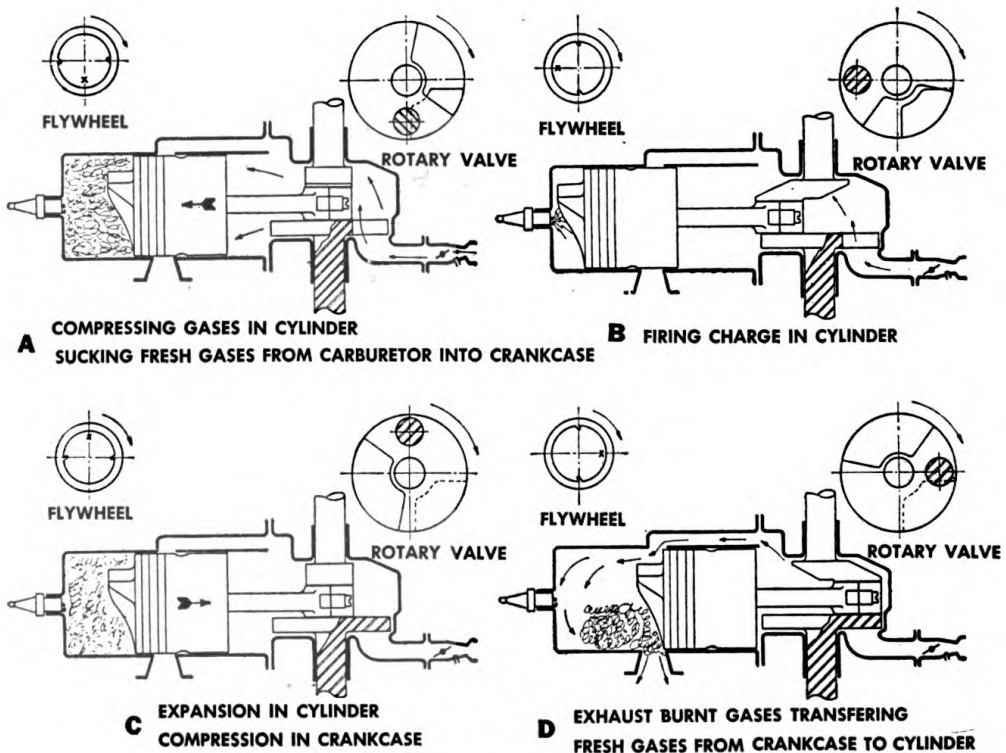

Figure 3. Two-stroke-cycle principle.
(1) The powerhead includes the cylinders, crankcase, crankshaft, pistons and connecting-rod assemblies, muffler, magneto system, carburetor, and fuel tank. It supplies the power to drive the propeller.
(2) The lower unit transmits the engine power to the propeller, and includes the transmission gears, drive and propeller shafts, bearings, water pump, exhaust outlet, propeller, and mounting bracket.
b. TWO-STROKE-CYCLE PRINCIPLE. (1) The two-cycle engine (see fig. 3) operates as follows: when piston travels upward, a charge of fuel vapor in cylinder is being compressed; at the same time a partial vacuum is created in the crankcase. As piston progresses in its upward movement, intake port from carburetor is opened by rotary valve in crankshaft and fuel vapor is admitted to crankcase as in *A*, figure 3. At the end of upward or compression stroke of the piston, as illustrated in *B*, figure 3, a spark plug ignites compressed fuel vapor in cylinder and rapid gas expansion which follows, produces power by pushing piston on the downward or power stroke *C*, figure 3.
port is uncovered and burnt gases pass into expansion chamber or muffler and then out through underwater exhaust *D*, figure 3.
(3) After exhaust port opens, piston will uncover intake port and admit to cylinder compressed fuel vapors from crankcase through bypass from crankcase to cylinder intake port. Fuel vapors are directed upward by deflector on piston head, as shown in *D*, figure 3. The continuous succession of above cycles produces a constant, smooth flow of power.
c. LUBRICATION. (1) *The powerhead.* (a) The most practical method of lubricating the powerhead is by mixing lubricating oil with the gasoline. The fuel vapors are introduced first into the crankcase where the oil tends to separate from the gasoline vapor and lubricate the crankshaft bearings and cylinder walls. The remaining oil enters the cylinder with the precompressed fuel and oil mist, and lubricates the cylinder walls and the piston and piston rings.
(2) At slow motor speeds, pressure of the water on the back of the propeller blades may not be great enough to force it through the channels and water jackets. Efficient cooling still is maintained, however, by the suction created by water discharging through the return channels. Since at slow speeds, cooling depends on both pressure and vacuum it is important that immediately after starting, the motor be speeded up for an instant to fill water jackets. Failure to do this may result in overheating and possibly scoring cylinder walls and pistons.
g. PISTONS, CONNECTING ROD, AND CRANKSHAFT. (1) *Piston.* (a) Outboard motor pistons are made of an aluminum alloy. On top of the piston is a deflector which directs the incoming fuel mixture upward into cylinder and away from exhaust port, as shown by figure 3.